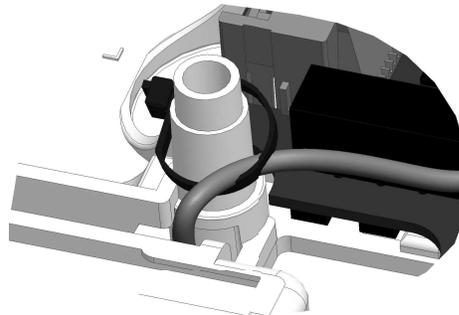

Figure 5: Securing the antenna connector
3. Secure the antenna connector to the plastic base on the enclosure using the cable tie provided (see Figure 5:).